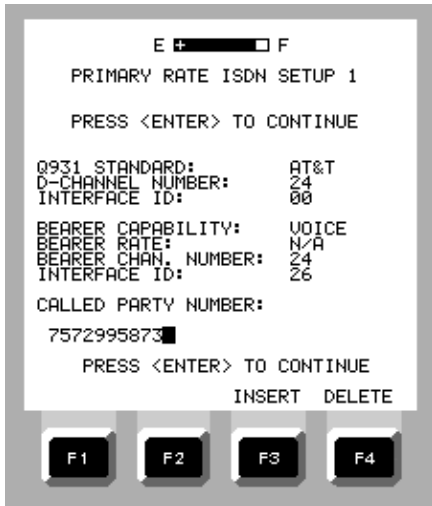

Figure 2-28. PRIMARY RATE ISDN SETUP 1 Screen (TE and NT EMULATE)
- f. PRI ISDN, TE EMULATE (Part of Option 09) - Allows test set to place voice and data calls toward the network to test "B" and "D" channel operation (Figures 2-28 and 2-29).
- g. PRI ISDN, NT EMULATE (Part of Option 09) - Allows test set to place voice and data calls toward the customer to test "B" and "D" channel operation (Figures 2-28 and 2-29).